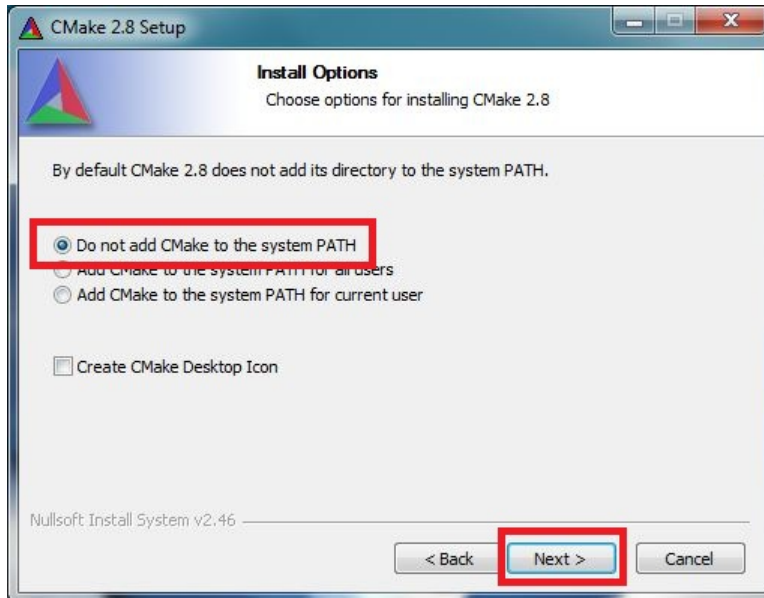

Figure 4-17. Cmake Installation Options
- Accept the default settings for the Cmake installation. Select Do not add Cmake to the system PATH variable as shown in Figure 4-17.